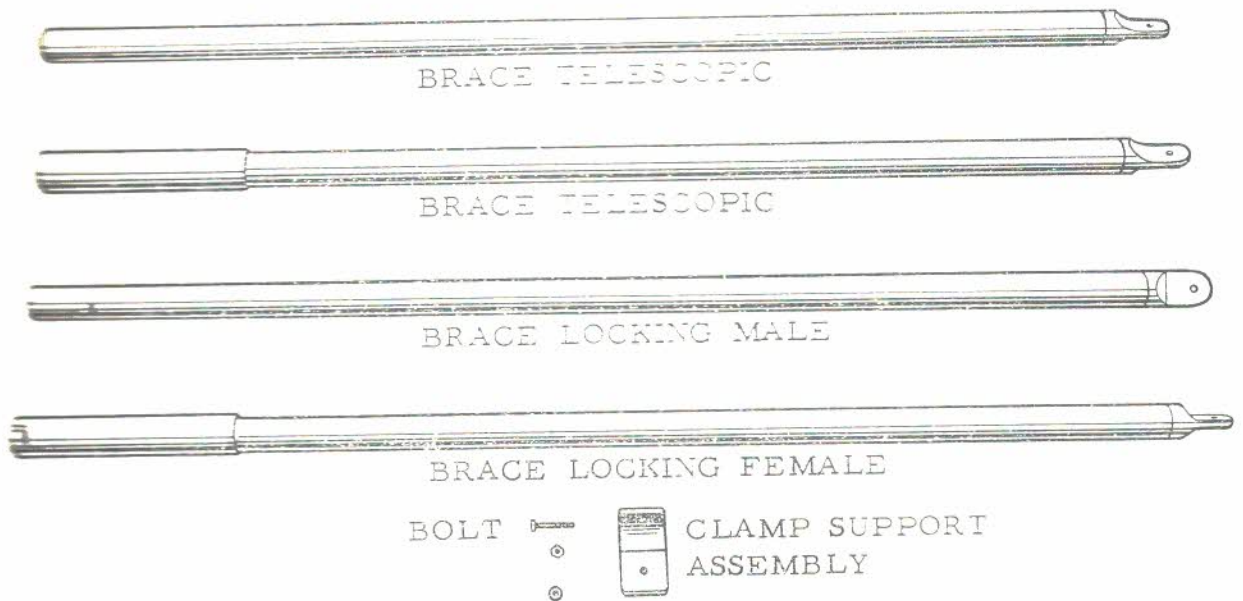

FIG 31 - INTERCONNECTING TENT METAL COMPONENTS
18. The components required for the erection are shown in Fig 31. Abbreviated nomenclatures are used to facilitate description; the full nomenclatures, together with the quantities of each item used, are given in Table 2 - Load Table (on page 24).